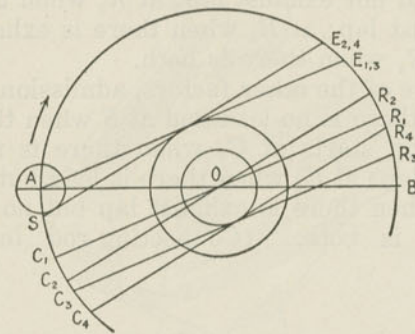

Fig. 169. Influence of Lap and Lead.
A. In Fig. 169,  $AB$  represents valve travel and piston path. The radius of the small concentric circle is the exhaust (or inside) lap; that of the larger one the steam (or outside) lap; that of the small circle at the left, the linear lead. Then  $E, E_3$ , the end of the chord tangent to the steam-lap circle, is the wrist-pin position when there is no lead, irrespective of the other elements;  $E_1, E_4$  when there is lead as shown. Release is at  $R_1$  when there is neither lead nor exhaust lap; at  $R_2$  when there is lead but no exhaust lap; at  $R_3$  when there is exhaust lap but no lead; at  $R_4$  when there is both.